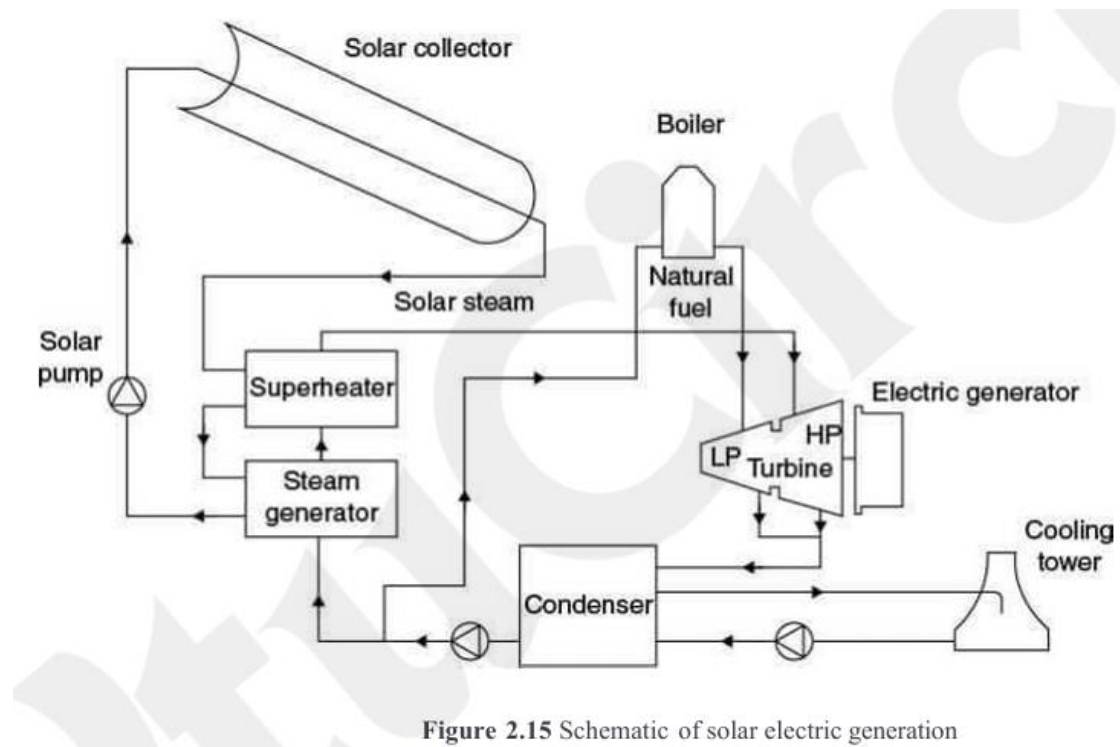

Figure 2.15 Schematic of solar electric generation
*An example of a **Brayton cycle** used to produce electricity for a **parabolic dish power plant** is shown in Figure 2.15.